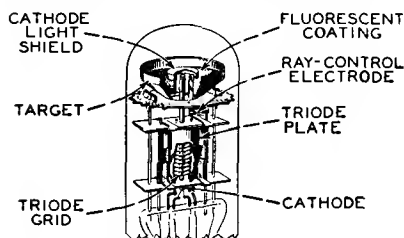

Fig. 109—Structure of electron-ray tube.
parts: (1) a triode which operates as a dc amplifier and (2) an electron-ray indicator which is located in the bulb as shown in Fig. 109. The target is operated at a positive voltage and, therefore, attracts electrons from the cathode. When the electrons strike the target they produce a glow on the fluorescent coating of the target. Under these conditions, the target appears as a ring of light.